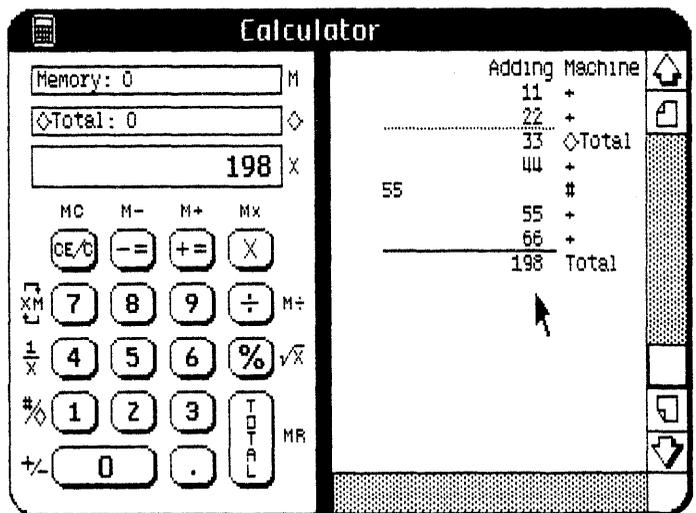

Figure 9. Adding Machine — Example 3
- ▶ Click Total; see Figure 9 now.
In Figure 9, the final result is displayed in the X register and shown on the tape. The solid underscore indicates that a total was taken; the value is labeled Total. The calculation register is cleared and the Calculator is ready to begin another problem.